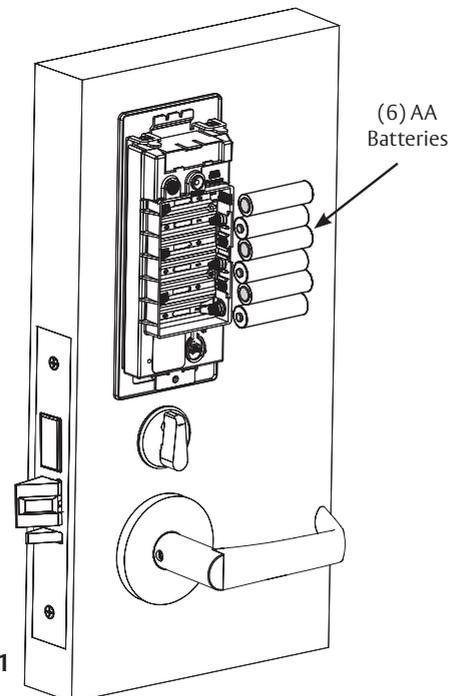

Fig. 11
- a. Place six (6) "AA" alkaline batteries in compartment, being careful to align polarity properly. (Figure 11)